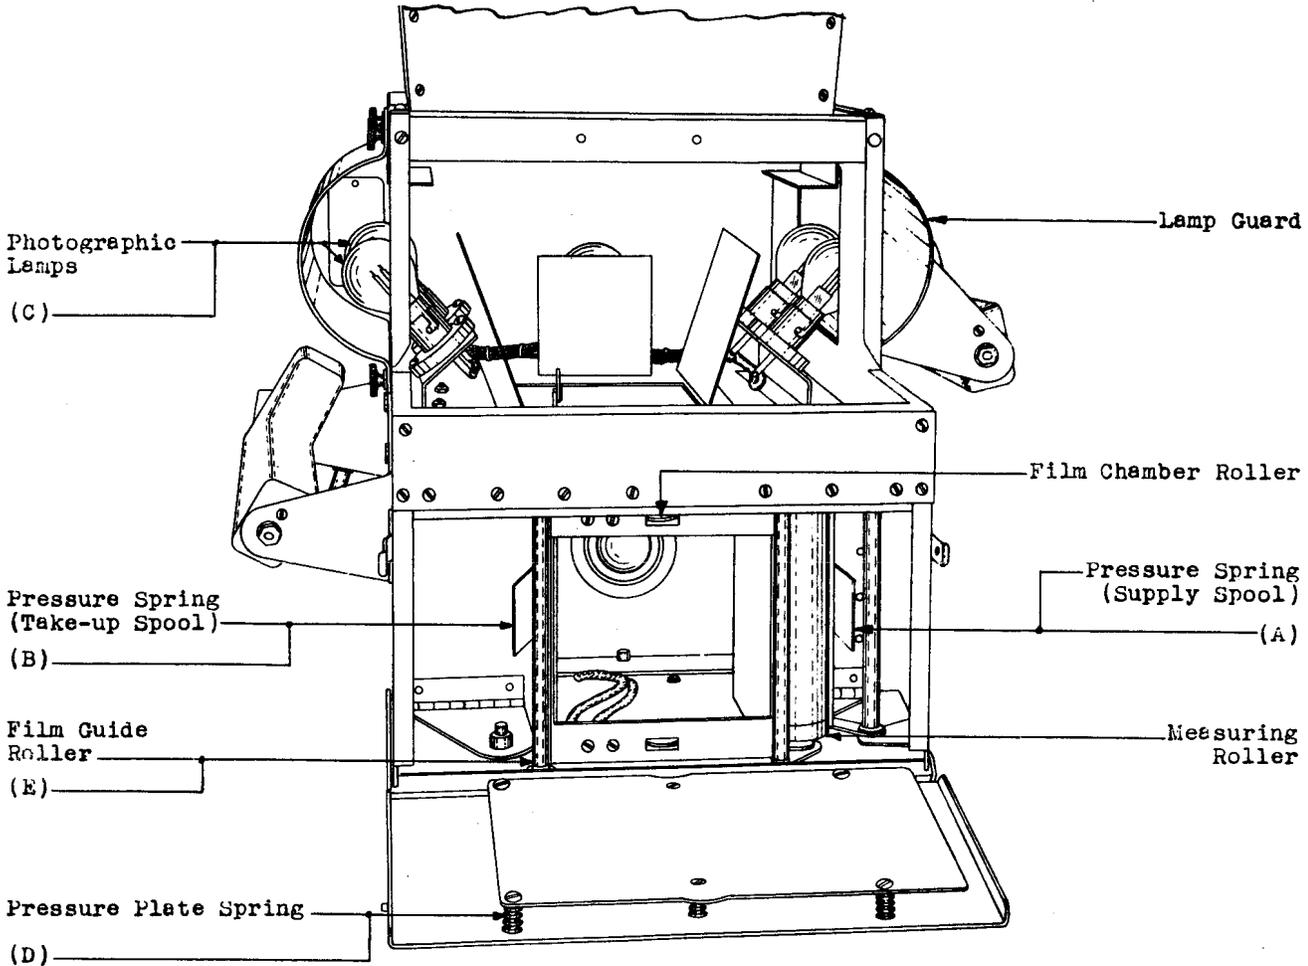

Fig. 6 - KS-8320 Camera - Film Chamber (Motor Drive Removed)
- (1) Pressure Plate Springs - Fig. 6 (D)
- (2) Film Guide Rollers - Fig. 6 (E)
2.06 Pressure Spring Tension (Take-Up Spool) Fig. 6(B): The tension of the pressure spring against a full spool of film shall be Max. 900 grams
2.07 Pressure Spring Clearance (Supply Spool) Fig. 6(A): With an empty spool in the spool holder of the supply side of the film chamber, there shall be a clearance between the spool and the pressure spring of approximately 1/8". Gauge by eye.
Type S11 (Photographic Lamps - Fig. 6(C))	100 W. - 105-120 V. Mazda Candelabra, Bayonet Base Min. Projection Lamp (For KS-8320 Camera)